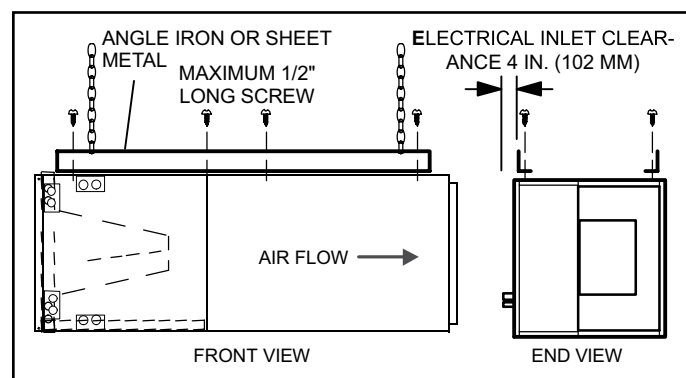

Figure 3. Suspending Horizontal Unit
5. If the unit is suspended, the entire length of the cabinet must be supported. If you use a chain or strap, use a piece of angle iron or sheet metal attached to the unit (either above or below) to support the length of the cabinet. Use securing screws no longer than 1/2 inch to avoid damaging the coil or filter. See Figure 3. Use sheet metal screws to connect the return and supply air plenums as required.
14. If suspending the unit, it must be supported along the entire length of the cabinet. If using chain or strap, use a piece of angle iron or sheet metal attached to the unit (either above or below) so that the full length of the cabinet is supported. Use securing screws no longer than 1/2" to avoid damage to coil or filter, as illustrated in Figure 3. Connect return and supply air plenums as required using sheet metal screws.